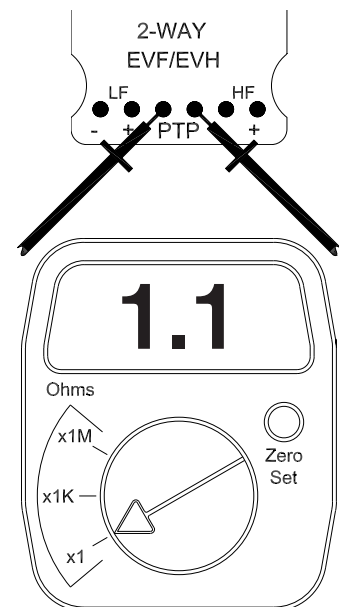

Figure 5:
3. Test the PTP (Power Tracking Protection) network: Place one test lead securely on each of the GREEN test points on the Access Card. A properly functioning PTP will read no more than 2 ohms (See Figure 5). If the reading is higher, replace the SK-3 lamps on the cross-over PCB.